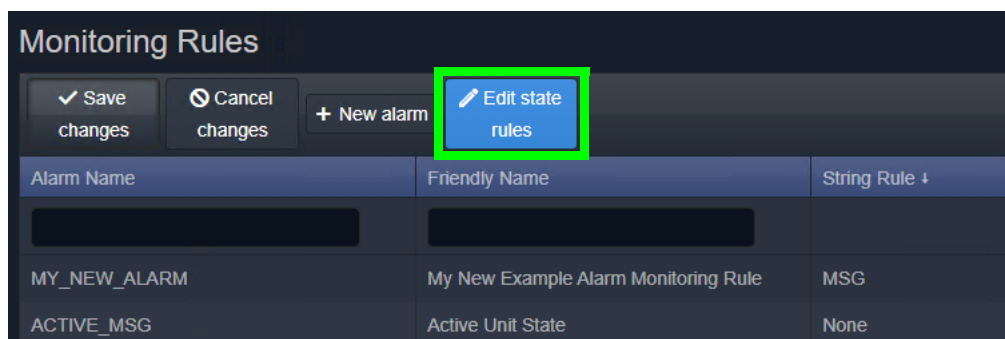

Figure 68: Edit State Rules Button
- 1 Click **Edit State Rules** in the **Monitoring Rules** configuration screen, see Figure 68.